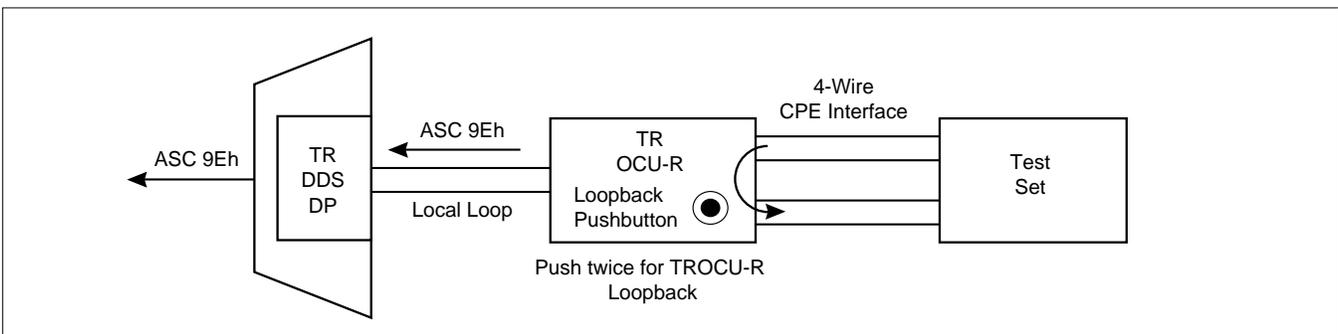

Figure 7. Total Reach OCU-R Remote End Initiated Loopback, Customer Loop
- Pressing the LBK pushbutton a second time initiates a loopback at the TROCU-R towards the 4-wire DDS (CPE) interface. See **Figure 7**.